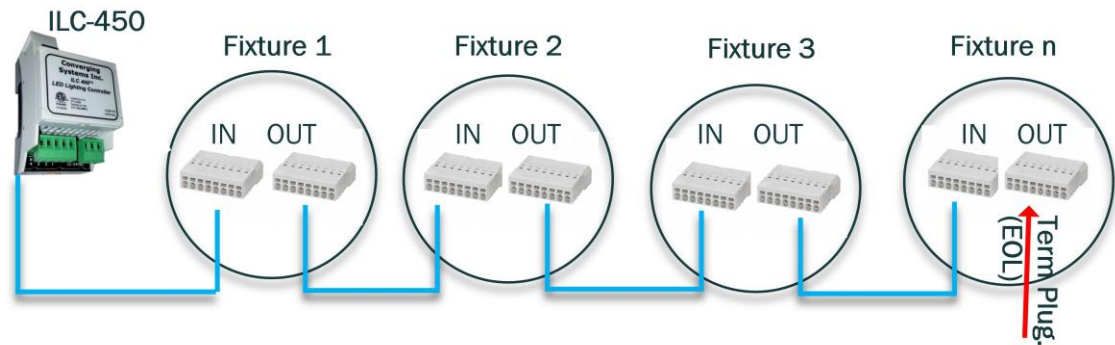

Figure 15
- a. Using 20/8 awg solid wire, make a direct connection from the ILC-450 to the first fixture as shown below (see Figure 14 and Figure 15 below).